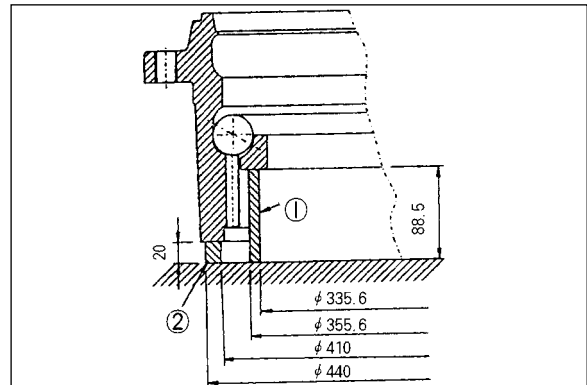

Figure 97
6. Support ball bearing housing with spacers (1 and 2, Figure 97) and install bearing into housing. Install spacer between balls, noting diameter shown in illustration.